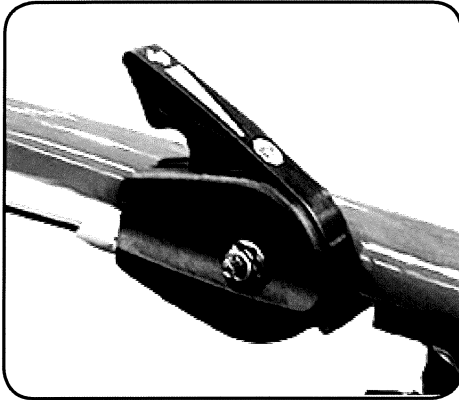

Figure 3-13
1. Run the throttle cable up the inside edge of the right handlebar and position the lever as shown in Figure 3-13.
2. From the outside of the handlebar, insert the 2.5" hex screw from the hardware pack through the flat washer, the handlebar and the center hole in the throttle lever mounting bracket. See Figure 3-13.
4. Ensure the groove in the throttle housing is flush with the handlebar. Securely tighten the flanged lock nut and the hex screw. See Figure 3-13.